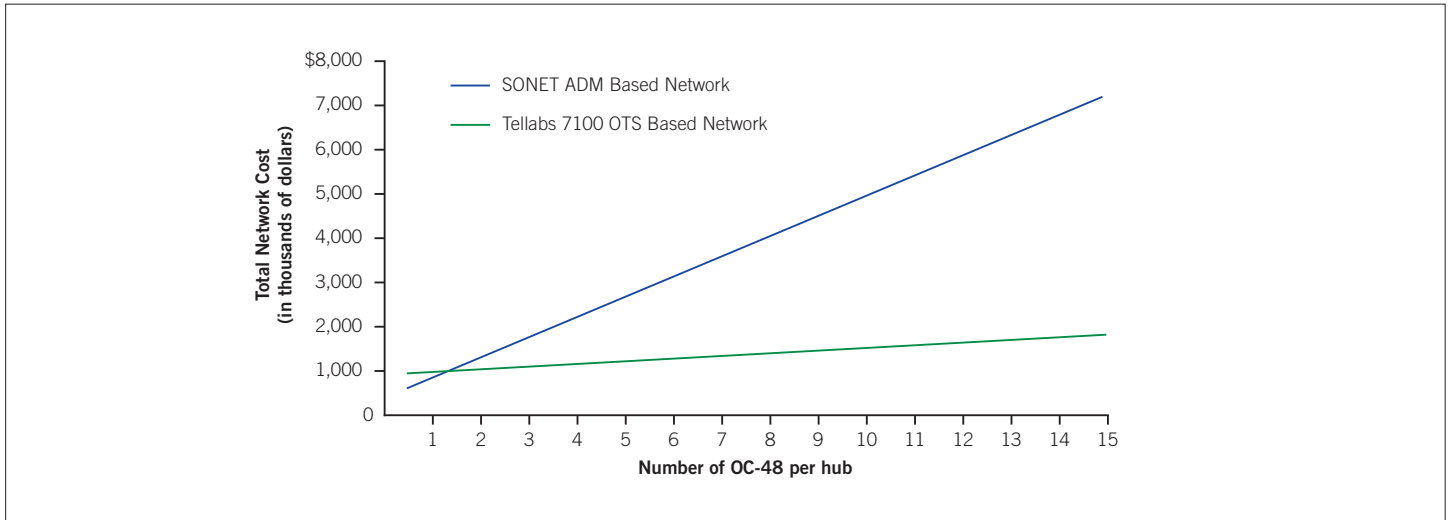

Figure 3. SONET/SDH ADM vs. Tellabs 7100 OTS: Economic comparison
- Accomplish subsequent upgrades at just 50% to 75% of the cost (Figure 3)